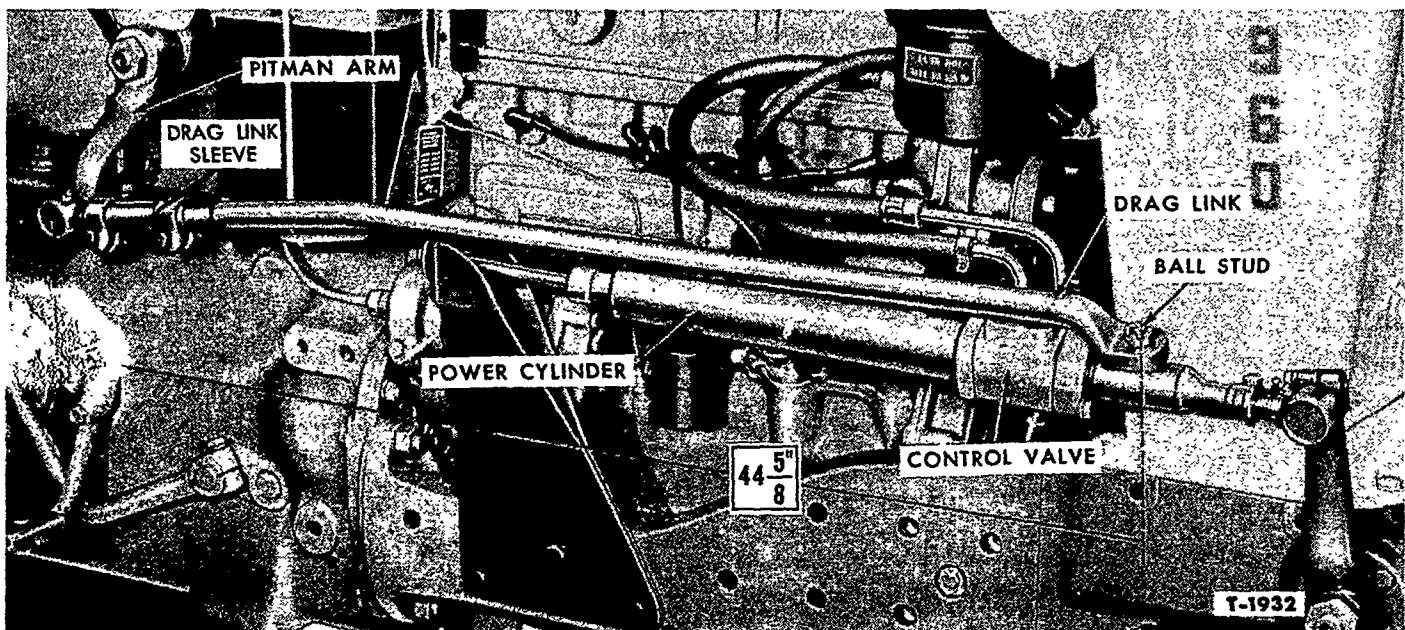

Figure 29—Drag Link Adjustment
9. The length of the assembled drag link should be 44 $\frac{5}{8}$ inches from the ball stud to ball stud as shown in Figure 29. Adjustment is made by loosening the sleeve clamp nuts and turning the screw-type sleeve to lengthen or shorten the drag link as required. Tighten the clamp nuts after adjustment has been made.